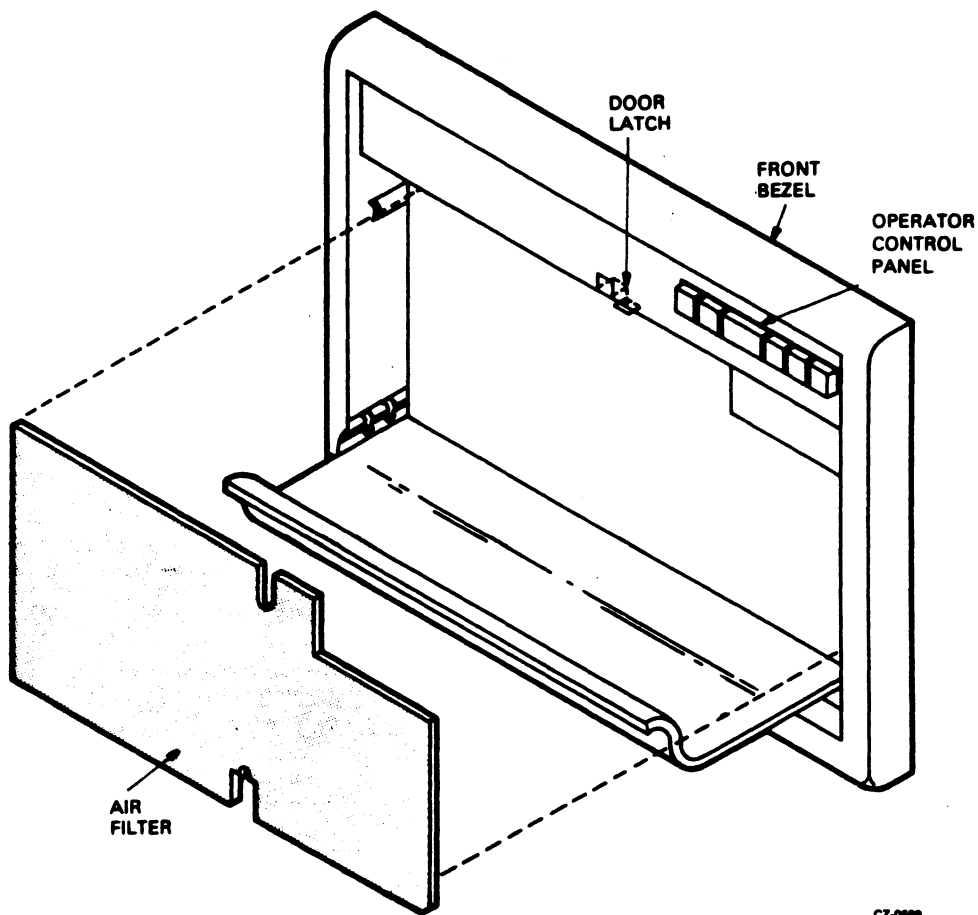

Figure 5-18 RA81 Air Filter Removal
1. Pull down the access door on the front bezel of the drive. Refer to Figure 5-18.